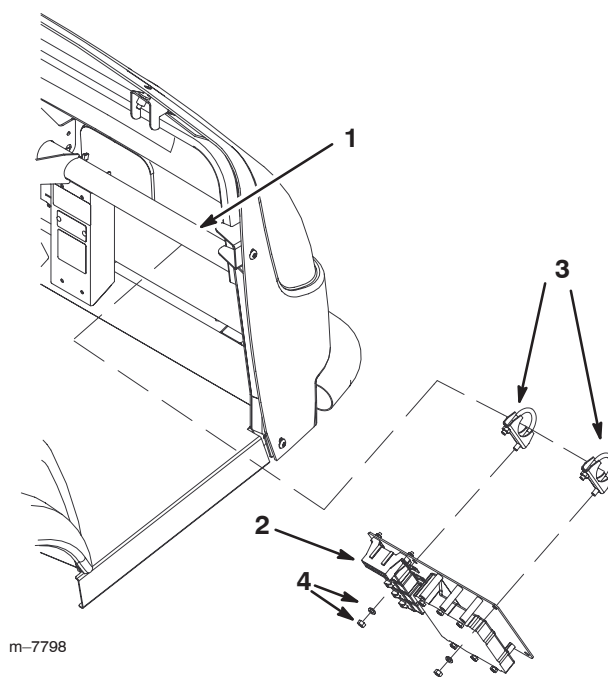

Figure 7
- C. For the Workman 200 Spray System, install the mount plate using 2 U-bolt clamps (5/16 x 3/4 inch) 2 nuts (5/16 inch) and 2 lock washers (5/16 inch) as shown in Figure 7.